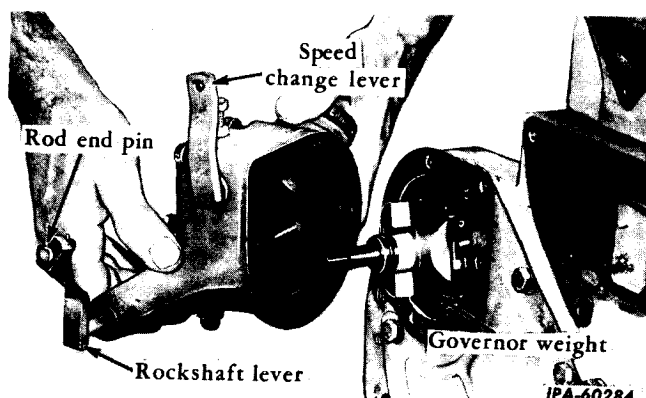

Fig. 3 - Removing the Governor Housing (135 Series).
1. Disconnect the connecting rod (2) to the carburetor at the clevis (1) by removing the cotter from the pin (3). Disconnect the rod at the speed change lever and shaft (4).
2. Remove the five housing bolts (10) and lift the governor housing away from the engine (Fig. 3).